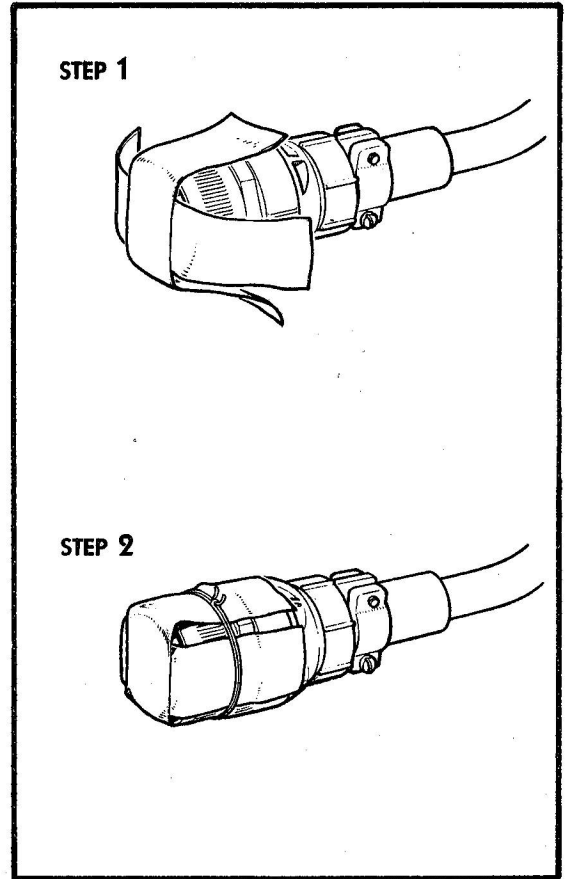

Figure 16 Wrapping of Plugs
- (a) Box and wrap plugs as shown in Figure 16. Where dummy receptacles or dust covers are provided for stowage, they must be used and taping will not be necessary.